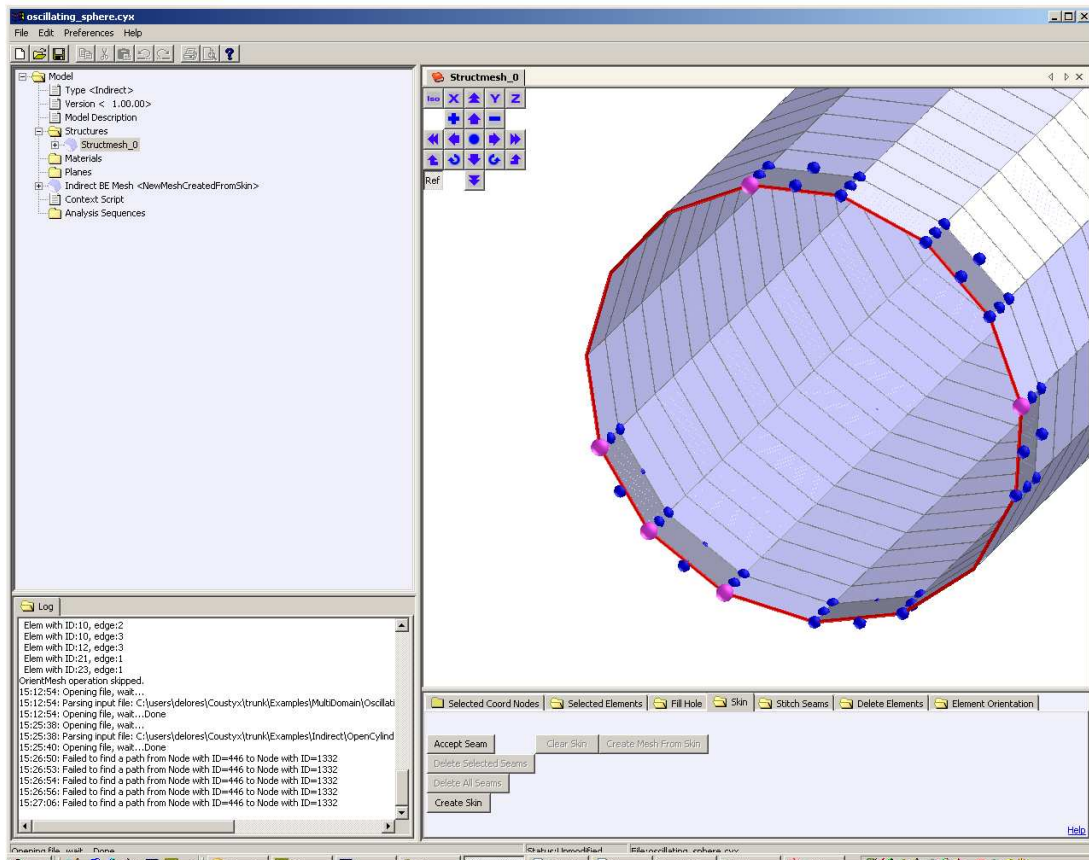

Figure 5.26: Create Seams.
Coustyx has the ability to skin the 3-D FE structure mesh to create a 2-D surface mesh used for BEA. The *Manipulation Task Function* **Skin** is located in a *tabbed* window at the bottom of the *Mesh Viewer* window (refer to Figure 5.26).
- If necessary, form the first seam as described in Section 5.5.3. If the seam is acceptable, click on **Skin** → **Accept Seam**. (Figure 5.26)